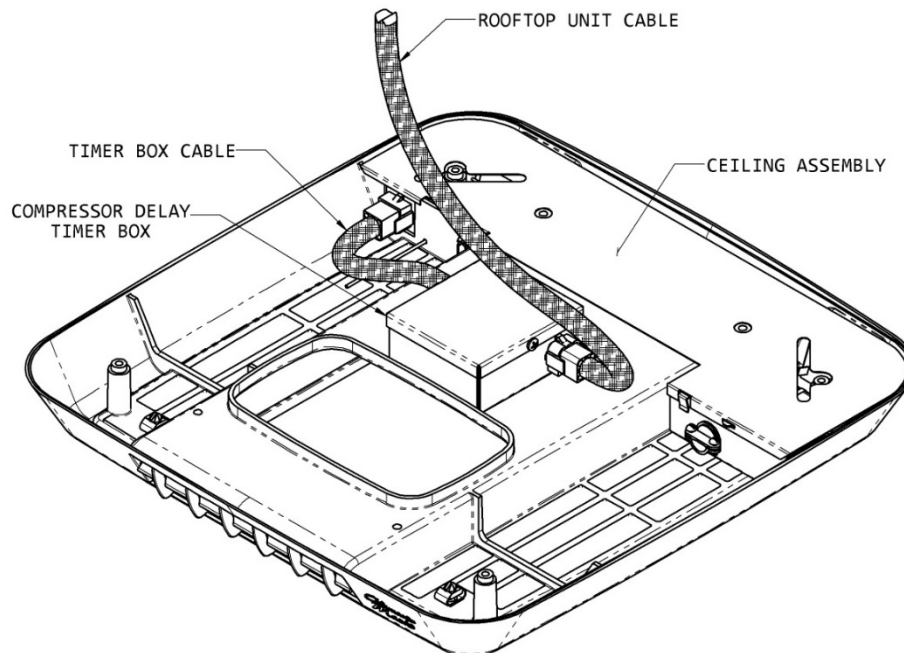

Figure 1
Installation Instructions (refer to Figure 1)
4. Attach the timer box to the top of the ceiling assembly chute with the two strips of double-sided tape included on the timer box. See Figure 1.
5. Attach unit cable to plug on timer box and attach cable from timer box to plug on ceiling assembly. See Figure 1.